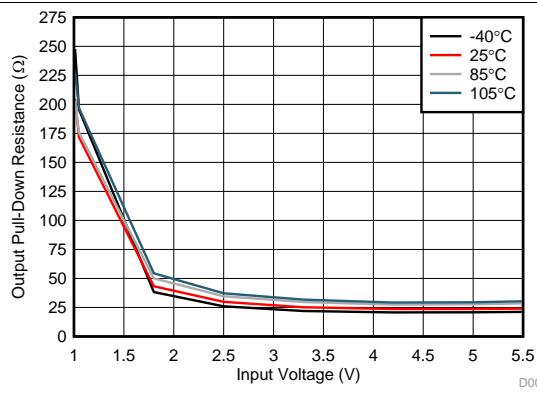

Figure 7. R_{PD} vs V_{IN}
(1) Output pull down resistance varies with input voltage. Please see Figure 7 for more information.